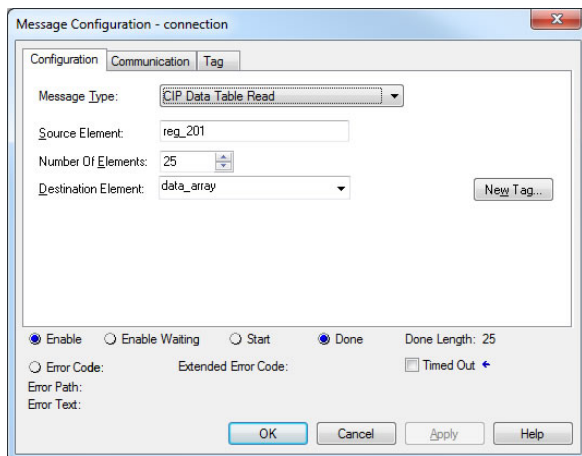

Figure 59: MSG Instruction Configuration
- b) Click the message configuration button (“...”) in the MSG instruction. The “Message Configuration” window will open. Refer to Figure 59.